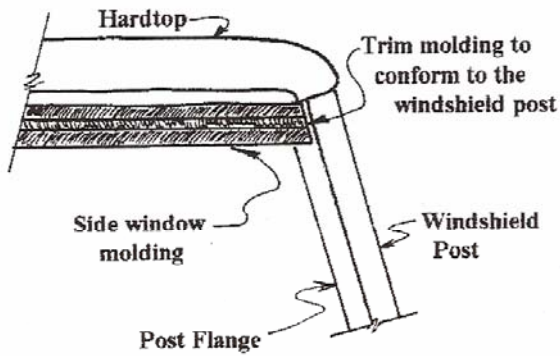

Fig. 1: Trimming Side Window Moldings
5. Trim the excess window rubber with scissors or a knife (see Fig. 1)